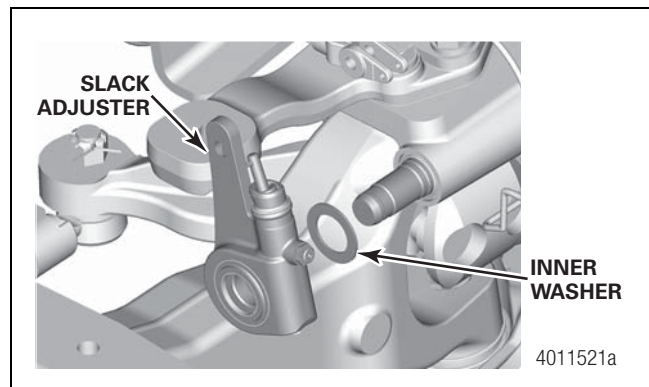

Figure 7.26
2. Install the inner washer onto the camshaft, then install the slack adjuster onto the camshaft. Figure 7.26.